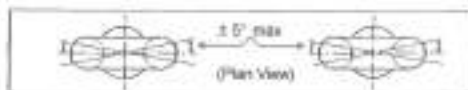

Figure 32
- With collar eyebolts used in pairs, the eyes must be in the correct plane. Use shims but do not machine the collar or over tighten. See figure 32.